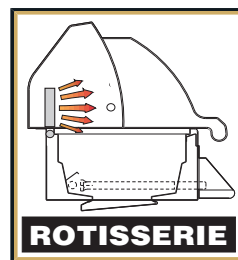

Fig. 15c
- The **Rotisserie burner** delivers the succulent self-basted flavours of chickens, ducks and hams or pork, beef and lamb roasts that only rotissing can achieve. Also the radiant infrared unit ensures that you will be enjoying the results much sooner (see Fig. 15c).